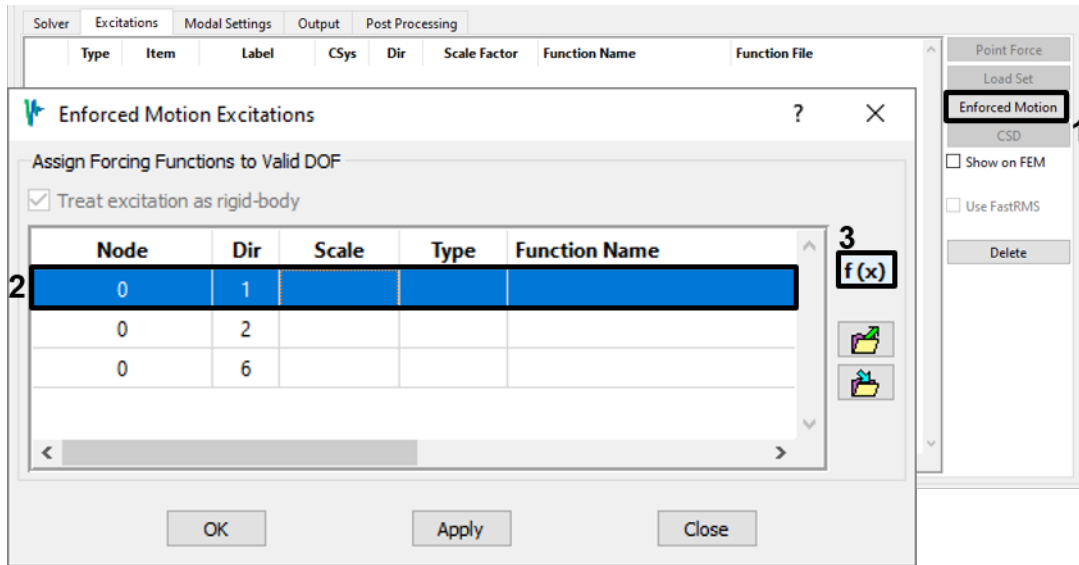

Figure 4-77. Assign an enforced motion function to direction 1.
- Response spectra are applied as enforced motions, so go to the *Excitations* tab and bring up the *Enforced Motion Excitations* dialog (Figure 4-77). Note that no motion out of the XY plane is offered; those degrees of freedom were removed from the model, so no modes have any effective mass in those directions. Select the X direction (direction 1) and click the $f(x)$ button to bring up the Function Manager.